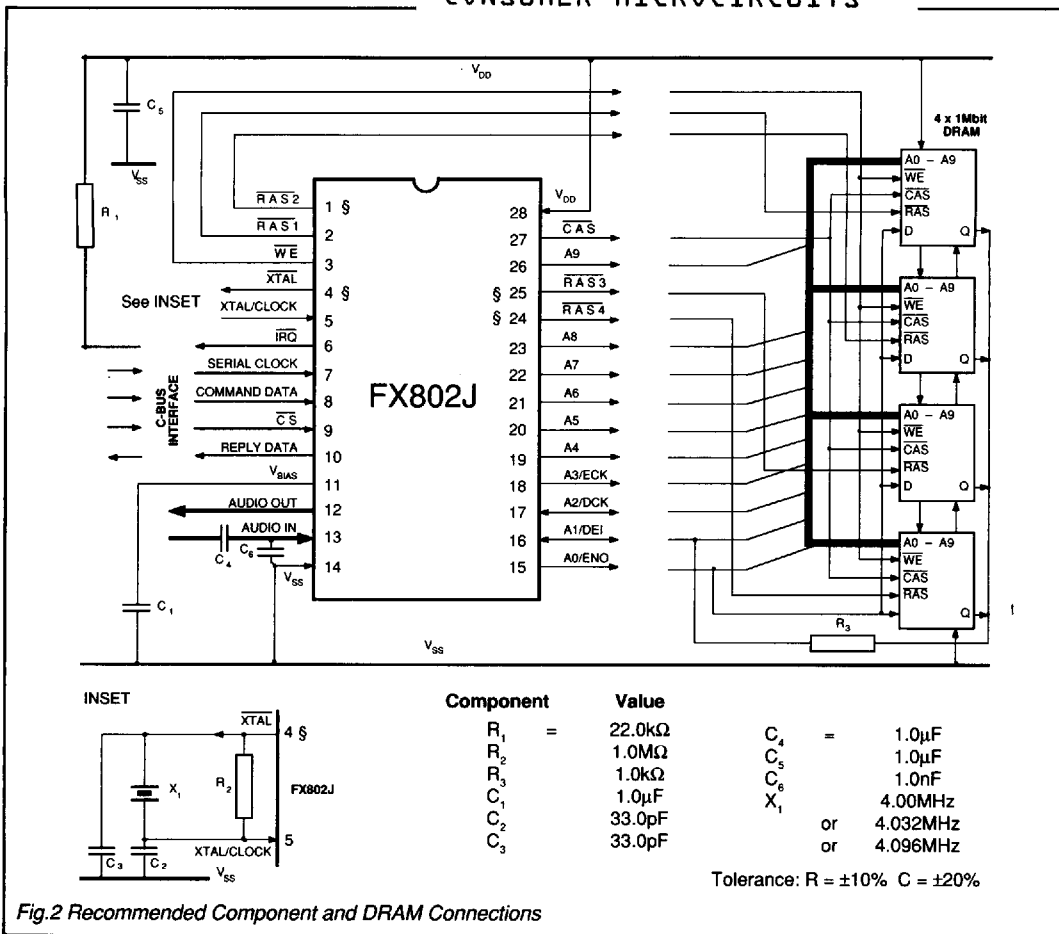

Fig.2 Recommended Component and DRAM Connections
7. Figure 2 (above) shows connections to 4 x 1Mbit sections of DRAM. If desired, to simplify PCB layout, the DRAM inputs A0 to A8 may be connected in any order to the FX802 DVSR Codec output pins A0 to A8. Connections to 256kbit DRAM are similar, but A9 unconnected.